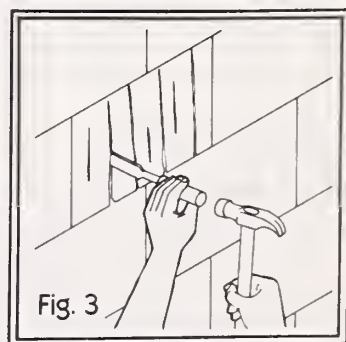

Fig. 3
1. First, using the chisel and hammer, splinter the shingle into small, slender pieces (fig. 3). Carefully remove the splintered pieces so as not to damage the remaining shingles. Pull the exposed nails with a claw hammer.